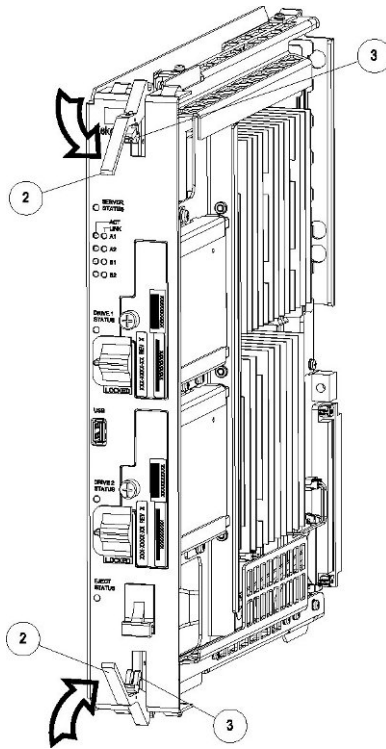

Figure 31: E5-APP-B Card Inject Levers
3. Push in the top and bottom inject/eject clamps (see Figure 31: E5-APP-B Card Inject Levers).